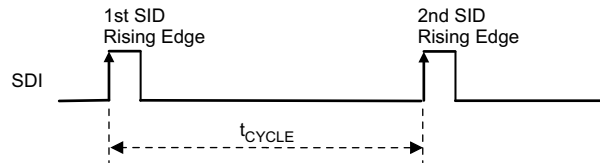
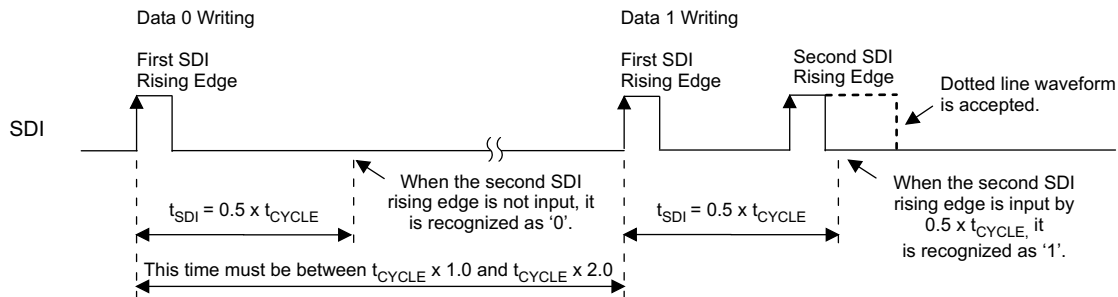

Figure 16. Data Transfer Rate (t_{CYCLE}) Measurement
Figure 17. Data '0' and '1' Write Operation
The TLC59731 measures the time between the first and second SDI rising edges either after the device is powered up or when the GS data latch sequence is executed (as described in the GS Data Latch Sequence \(GSLAT\) section) and the time is internally stored as t_{CYCLE} . t_{CYCLE} serves as a base time used to recognize one complete data write operation, a 32-bit data write operation, and a GS data write operation to the GS data latch. t_{CYCLE} can be set between $1.66 \mu\text{s}$ and $50 \mu\text{s}$ ($f_{\text{CLK(SDI)}} = 20 \text{ kHz}$ to 600 kHz). In this sequence, two instances of data '0' are written to the LSB side of the 32-bit shift register. Figure 16 shows the t_{CYCLE} measurement timing.
When the second SDI rising edge is not input before 50% of t_{CYCLE} elapses from the first SDI rising edge input, the second rising edge is recognized as data '0'. When the second SDI rising edge is input before 50% of t_{CYCLE} elapses from the first SDI rising edge input, the second rising edge is recognized as data '1'. This write sequence must be repeated 30 times after the t_{CYCLE} measurement sequence in order to send the write command to the lower 6-bit (3Ah) and 24-bit GS data. Figure 17 shows the data '0' and '1' write timing.
2. Write the 32-bit data packet (MSB-first) for the first device using t_{CYCLE} and the data write sequences illustrated in Figure 16 and Figure 17. The first 8-bits of the 32-bit data packet are used as the write command. The write command must be 3Ah (00111010b); otherwise, the 24-bit GS data in the 32-bit shift register are not copied to the 24-bit GS data latch.